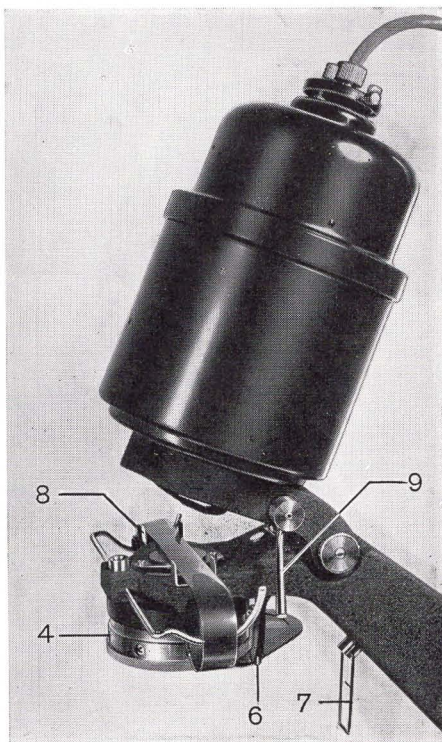

fig. 2
To turn ring (4) figure 2, press back lever (6). When released this lever blocks the ring in the precise position which has been calibrated at the factory. In order to use the enlarger freely, without this automatic focussing system, the lever should be engaged in the eyelet (7) on the arm. In this position the helicoidal mount is free and can be turned and adjusted at the will of the operator.